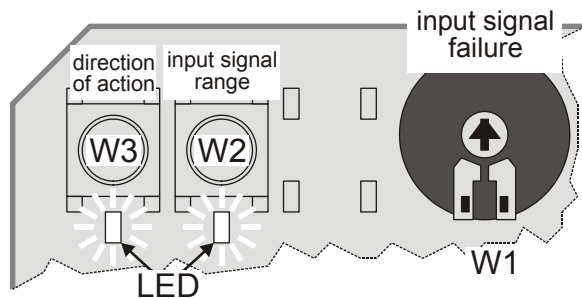

Fig. 1. Pushbuttons and potentiometer (default positions)
*** Factory setting; can be reversed by pressing the pushbutton (W3) located on the PCB (see Fig. 1).
The direction of action can be reversed by pressing the left-hand pushbutton (W3) located on the printed circuit board (see Fig. 1). If the corresponding LED is lit, this indicates that the actuator stem will retract at a control signal of 0(2) Vdc (factory setting); if it is dark, the actuator stem will extend at a control signal of 0(2) Vdc.
The range of the analog input signal Y can be changed by pressing the right-hand pushbutton (W2) located on the printed circuit board (see Fig. 1). If the corresponding LED is lit, this indicates that the actuator is set for 0...10 V operation (factory setting); if it is dark, the actuator is set for 2...10 V operation.
Using the potentiometer (W1) located on the printed circuit board (see Fig. 1), the actuator can be adjusted such that in case the signal input fails (due, e.g., to a broken wire) or exceeds 12.5 V, the actuator will run to any pre-configured position between 0% and 100%. The factory setting is with the actuator stem in the central position (50%).